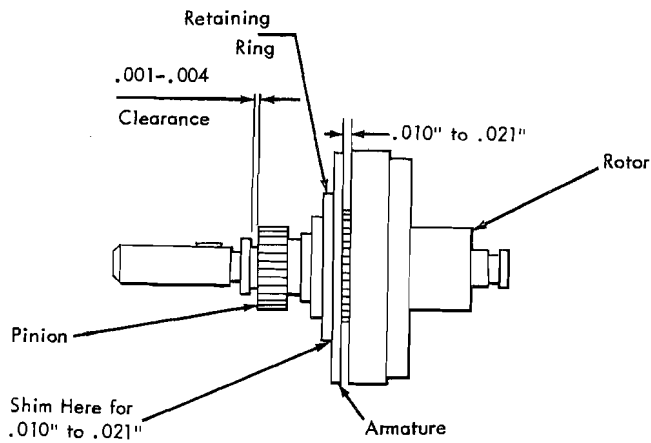

Figure 38. Friction-Style Ribbon Clutch
7. Friction-style-clutch adjustment (Figure 38):